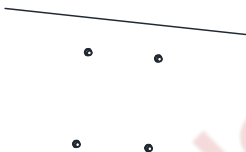

Figure 2-51 Drill Screw Holes
1. Drill screw holes on the wall according to the dimensions of wall-mounted camera and insert four M6 expansion screws into the screw holes, as shown in Figure 2-51.